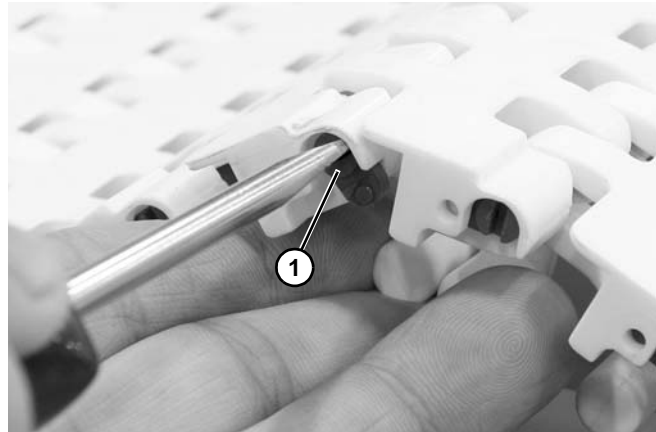

Figure 32
3. Insert a flat blade screwdriver into the slot on the rod head (**Figure 32, item 1**) and rotate the rod head counterclockwise to unlock.